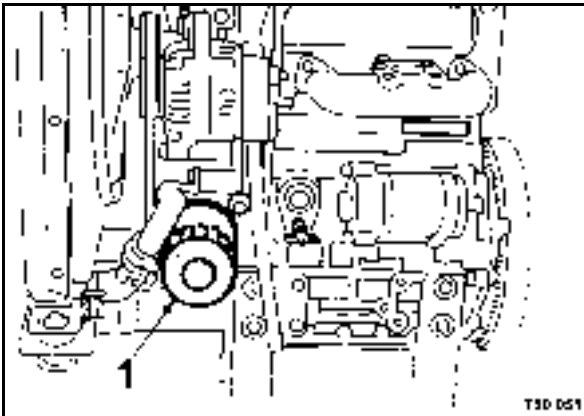

Fig. 99
- Unscrew the filter cartridge (1) (Fig. 99) using an appropriate filter wrench.